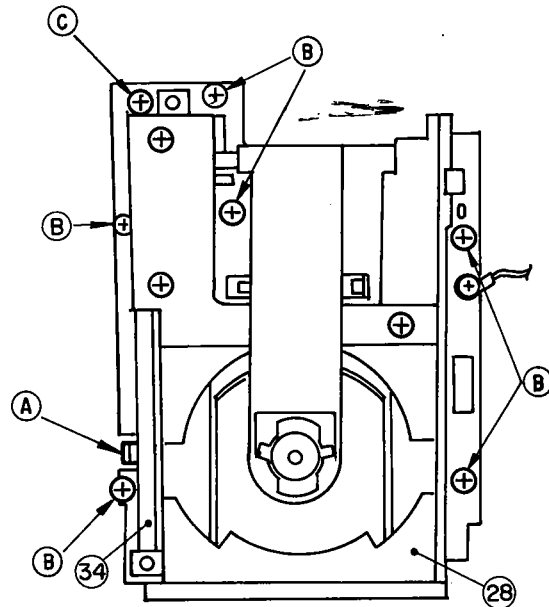

Fig. 1
Remove whole body of the Laser Pick-up Mechanism FG-611, pull the Loader Frame (28) frontward, then after unfasten screw C lift the Loader Rail (34) upward and pull it out backward, then the Loader Frame can be taken out (Fig. 1)